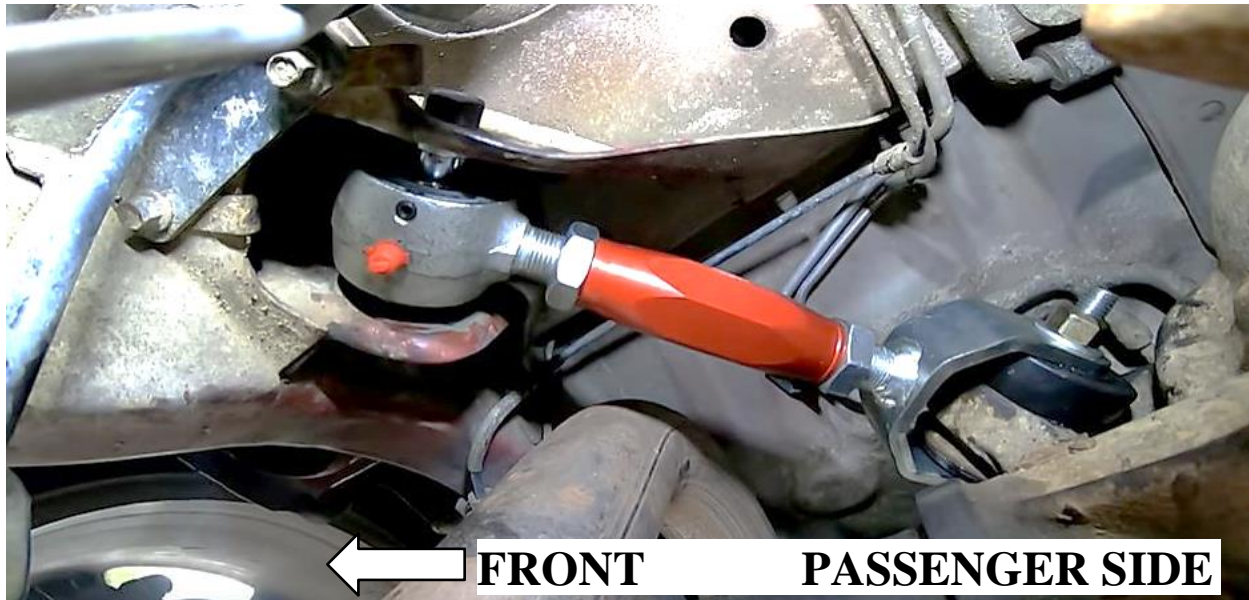

Figure 7
4. Lightly grease the inside and outside of the polyurethane bushing and install the bushing into the axle from the wheel side of the flange. **(Figure 7)**